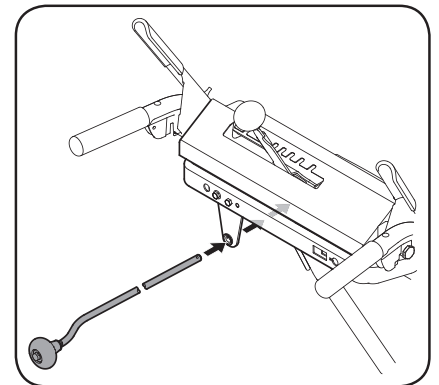

Figure 2-18
4. Insert chute control rod into the support bracket on rear of the dash panel. See Figure 2-18.